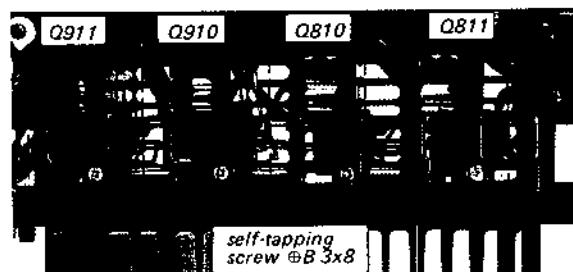

Fig. 2-14 Top heat sink bracket removal
- Remove the four self-tapping screws ($\#B\ 3\times8$) securing top heat sink bracket as shown in Fig. 2-14.